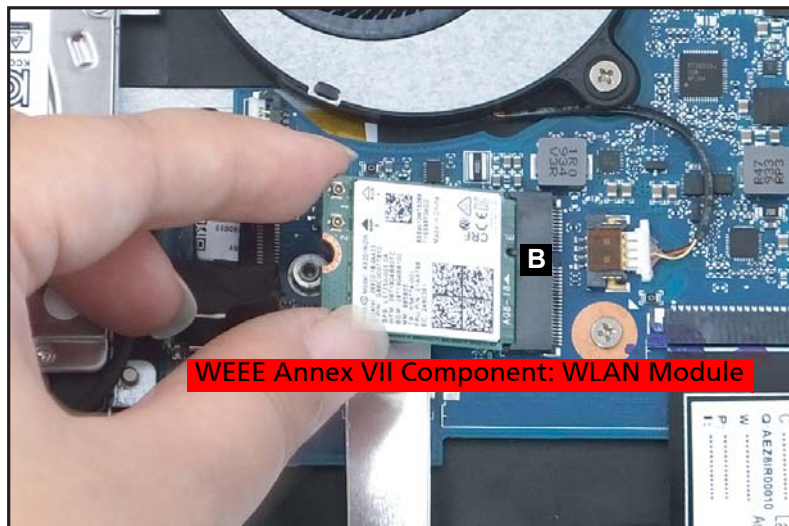

Figure 1-11. WLAN Module Removal
6. Remove the WLAN module from the mainboard connector (B) (Figure 1-11).